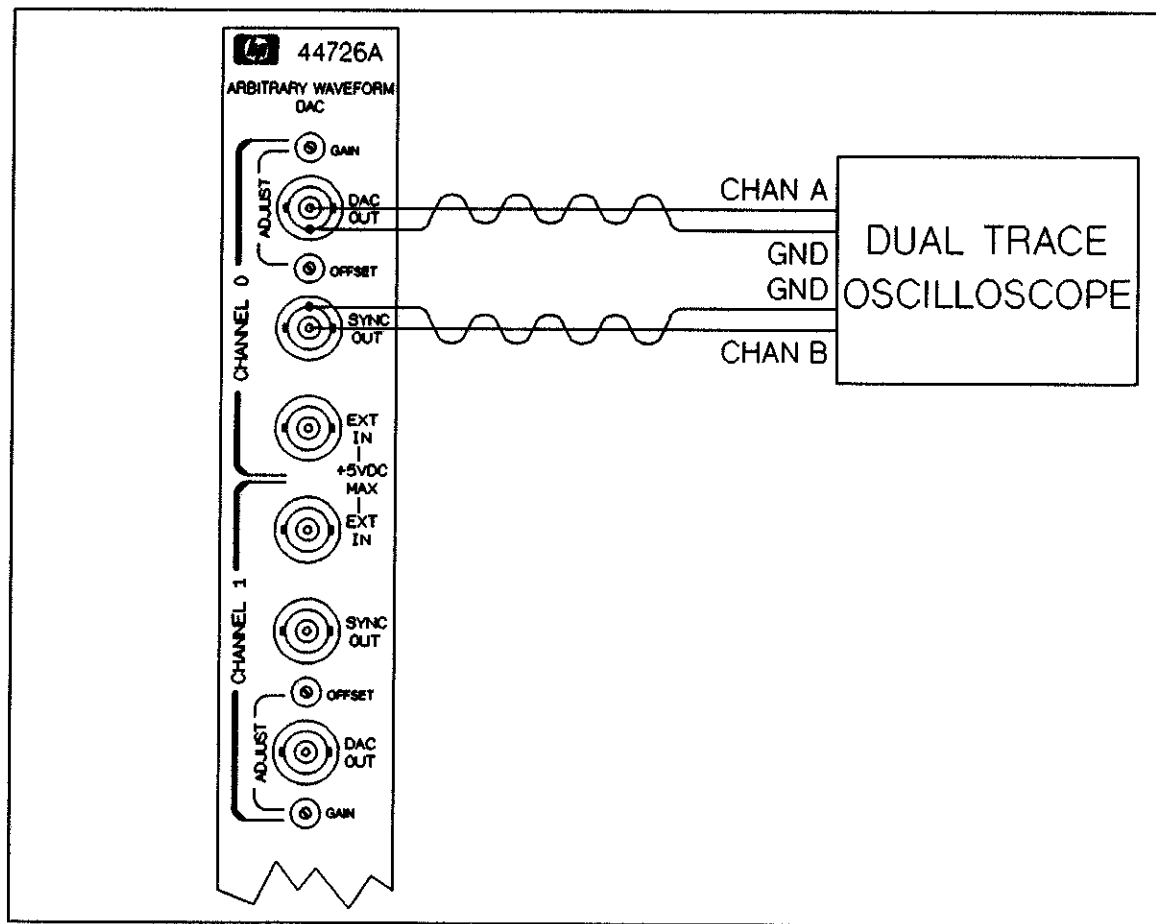

Figure 21-2 Channel 0 Sync Output Test Setup
3. Refer to Figure 21-2. Connect channel A of the oscilloscope to the accessory's DAC OUT connector on channel 0. Connect channel B of the oscilloscope to the accessory's SYNC OUT connector on channel 0.